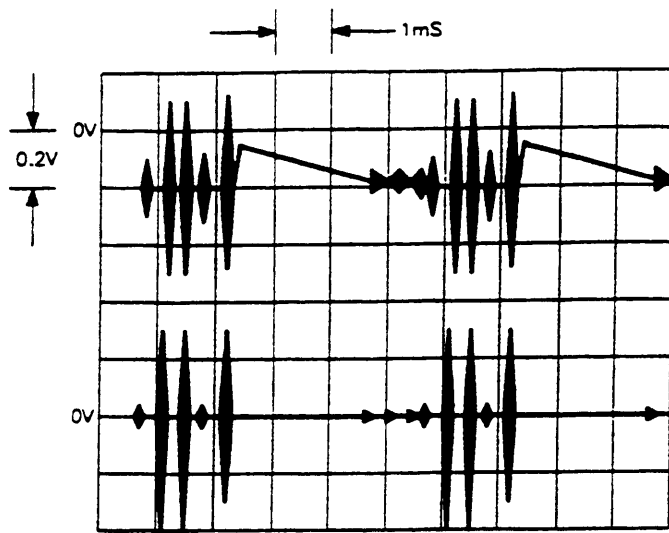

Figure 4. Beatnote Amplifier.
*The beatnotes in Figures 4 and 5 can not be checked with the digital oscilloscope. The HP 1740A analog oscilloscope (obsolete) or equivalent can be used.*
7. Switch the Signal Generator back ON and verify that the oscilloscope display shown in Figure 4 is correct.